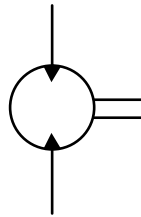

FIG 7.
F. The symbol for a hydraulic motor (fixed displacement) with two direction of flow is shown in Fig 7.